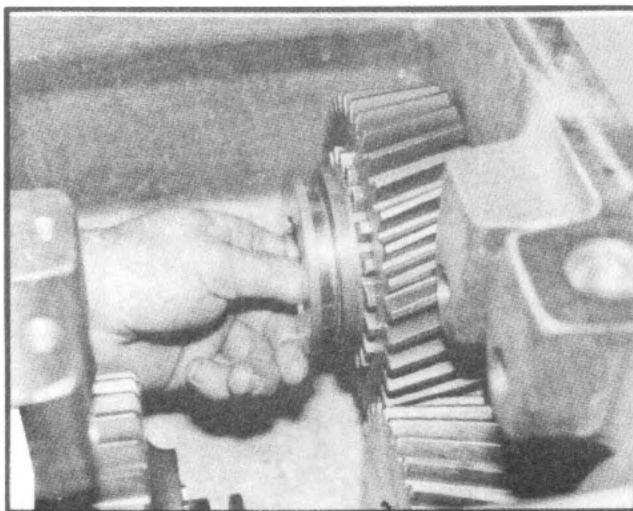

Fig. 26
2. Slide the clutch gear into the stem gear clutch teeth (See fig. 26).